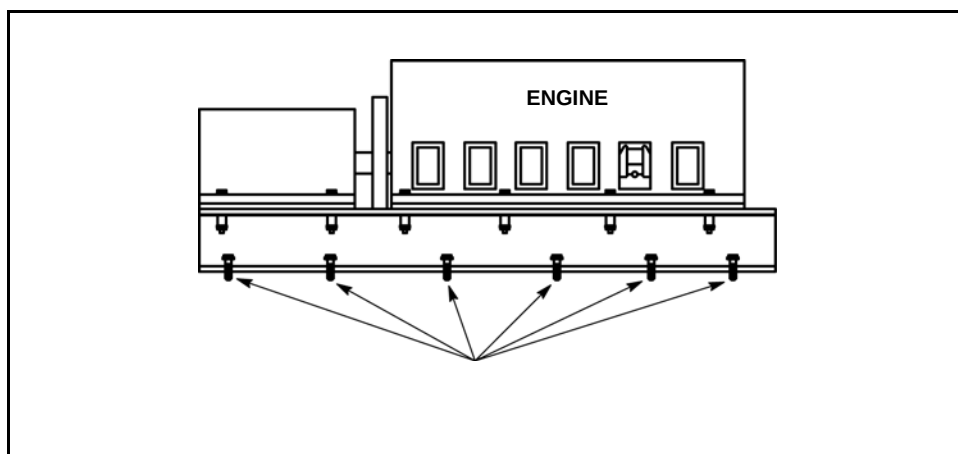

Figure 9-20 Adjust for Minimum Crankshaft Web Deflection Per Section
1. Level the unit skid using crankshaft web deflection and alignment to verify the skid is properly leveled (see Figure 9-20) (&).